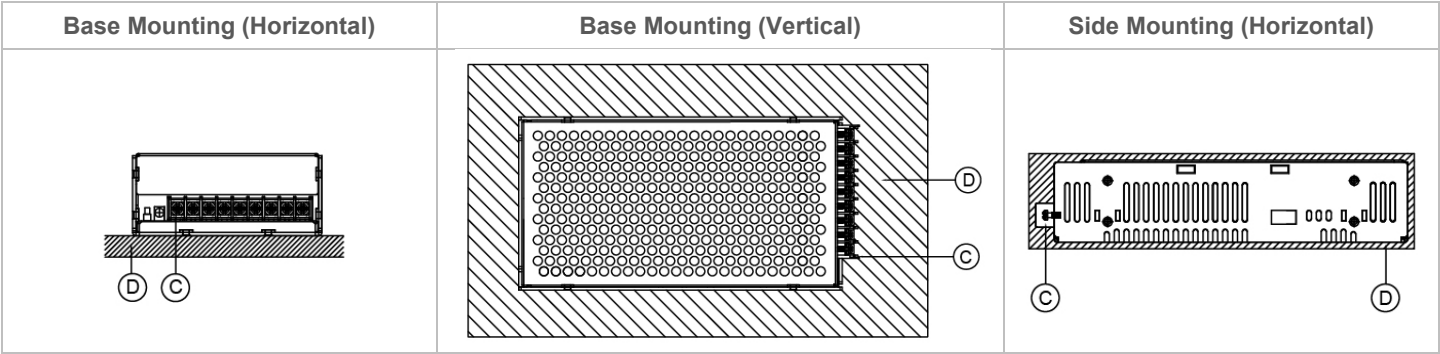
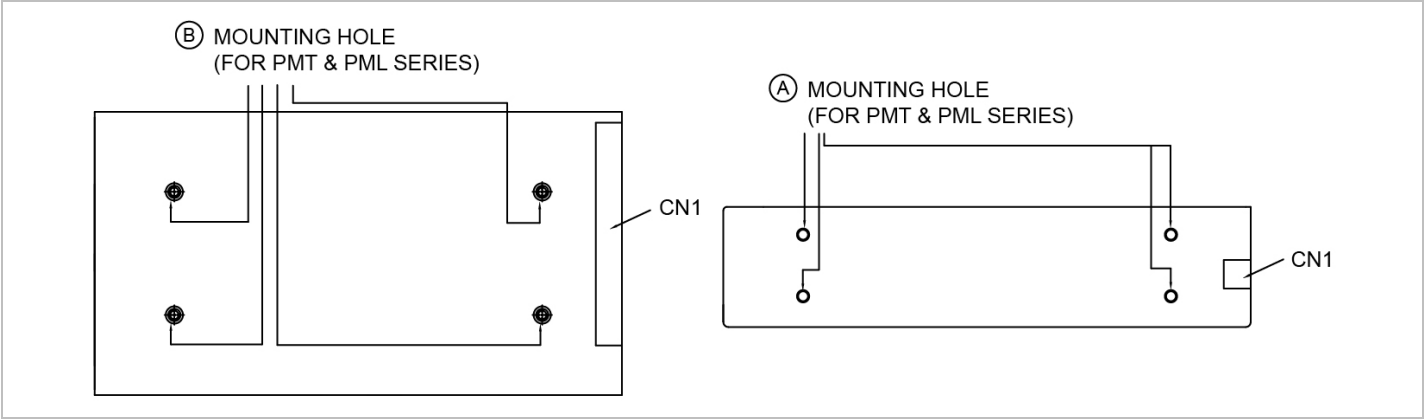
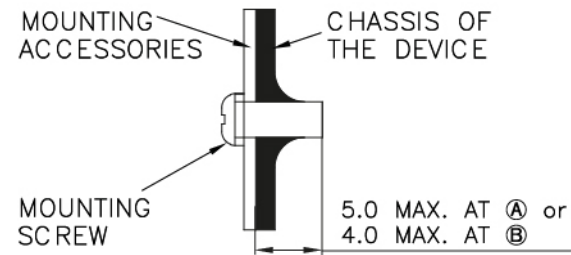

Fig. 2 Recommended Mounting Orientations
Fig. 3 Mounting Hole Locations
Fig. 4 Assembly Reference
- Ⓐ Side Mounting: Fig. 2 and Fig. 3 show the mounting hole locations for power supply assembly onto a metal mounting surface. The power supply shall be mounted on minimum of 4 mounting holes using M4 screw of maximum 5 mm (0.20 inch) length (Refer to Fig. 4). This is to maintain a safety distance between the screw and internal components.
- Ⓑ Base Mounting: Fig. 2 and Fig. 3 show the mounting hole locations for power supply assembly onto a metal mounting surface. The power supply shall be mounted on minimum of 4 mounting holes using M4 screw of maximum 4 mm (0.16 inch) length (Refer to Fig. 4). This is to maintain a safety distance between the screw and internal components.